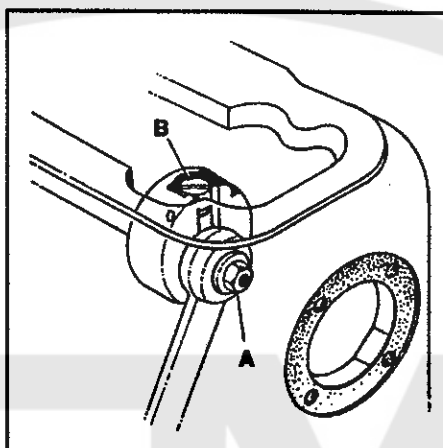

FIG. 7
To adjust the looper travel remove the top front cover and the end cover. Loosen left-handed locknut (A, Fig. 7) and turn screw (B) clockwise to decrease the looper travel or counterclockwise to increase the looper travel. Tighten locknut (A) and recheck setting.